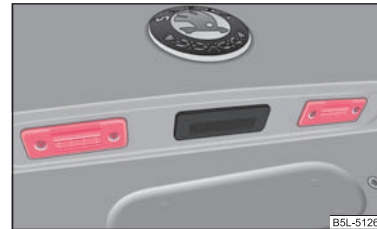

Fig. 201 Licence plate light
- Unscrew the glass cover of the light ⇒ fig. 201.